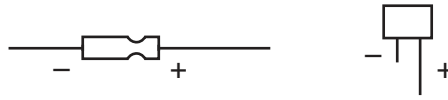

Fig. 2.2
- An electrolytic capacitor of nominal value $100\mu\text{F}$ e.g. RS component number 739-6799 should be labelled C. The circuit could be hazardous if the capacitor is connected the wrong way round. The supervisor must connect the positive terminal of the capacitor to the positive terminal of the power supply. Fig. 2.2 shows the negative and positive terminals of the two most common types of capacitor.